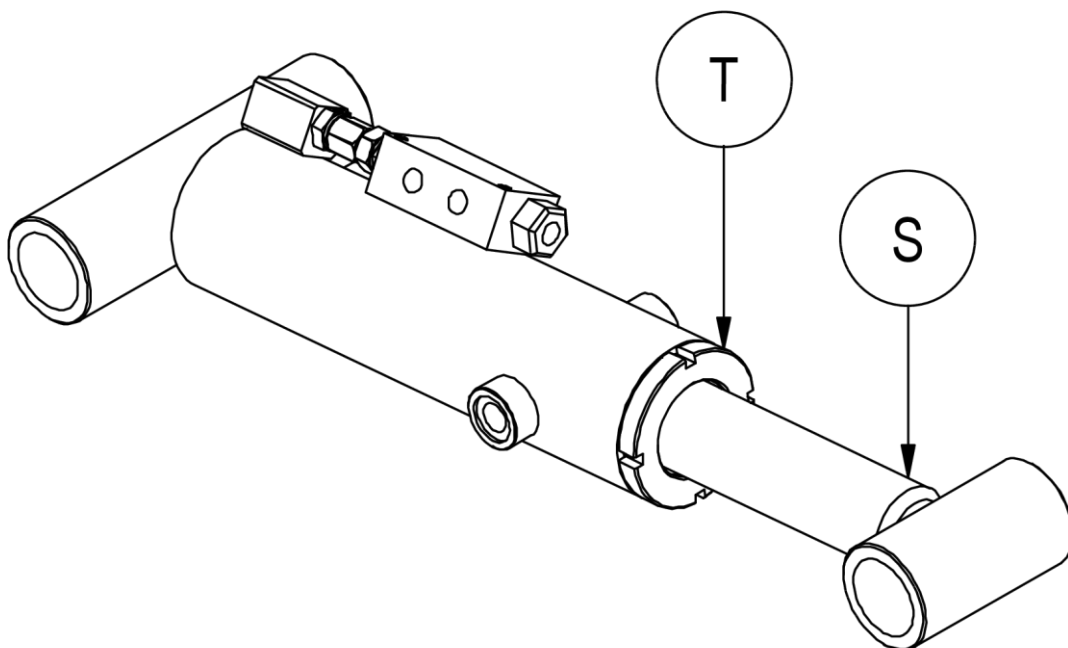

Figure 20
7. Use *Figure 20* as a guide.